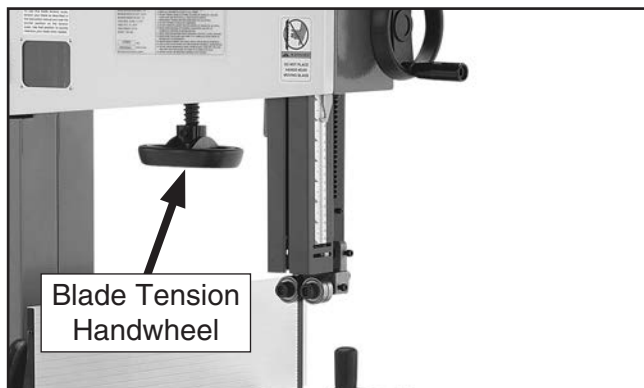

Figure 45. Blade tension handwheel.
- Using the blade tension handwheel (**Figure 45**), slowly decrease blade tension until the blade starts to flutter.